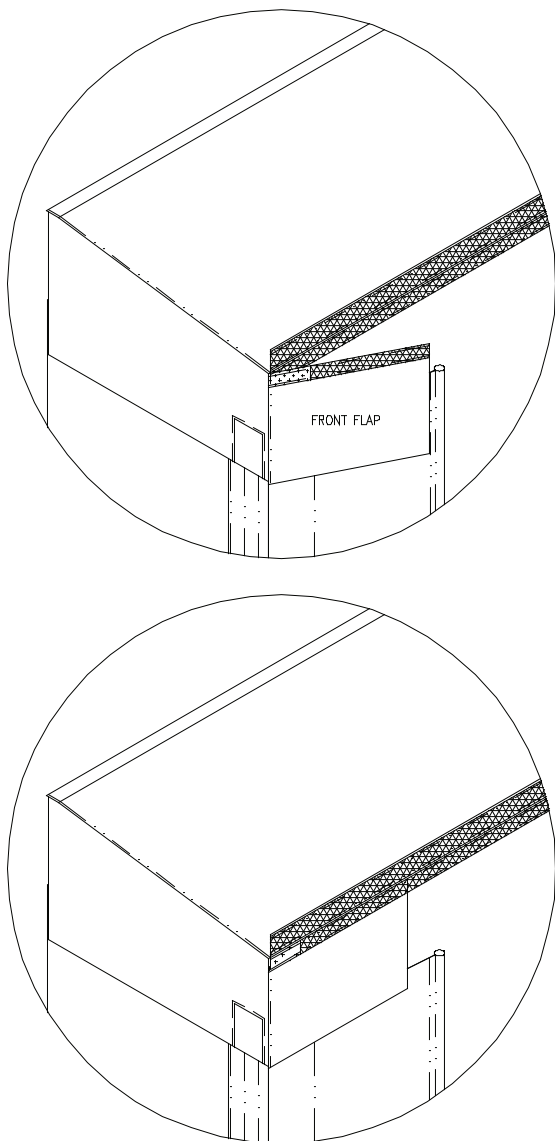

FIGURE 6
15. Finally, wrap the end caps front flaps onto the front bar velcro. (See Figure 6) Align edge on end cap to top edge of the front bar itself. Do not align to velcro. Also, do not pull end cap tightly around corner. Allow the end cap to wrap corner loosely. This allows the header to flex and proper movement of side members relative to header during normal operation. (See Figure 6)
8. Finally, wrap the end cap front flap onto the front bar of header assembly at the same time attaching it to the endcap flap velcro located at the top, front face of the side curtain. (See Figure 6 & 8) Align edge on end cap to top edge of the front bar itself. Do not align to velcro. Also, do not pull end cap tightly around corner. Allow the end cap to wrap corner loosely. This allows the header to flex and proper movement of side members relative to header during normal operation. For common member units, the endcap front face attaches to side frame via the velcro on the top, front face of the side curtain while on standard units it is attached to velcro on the side.